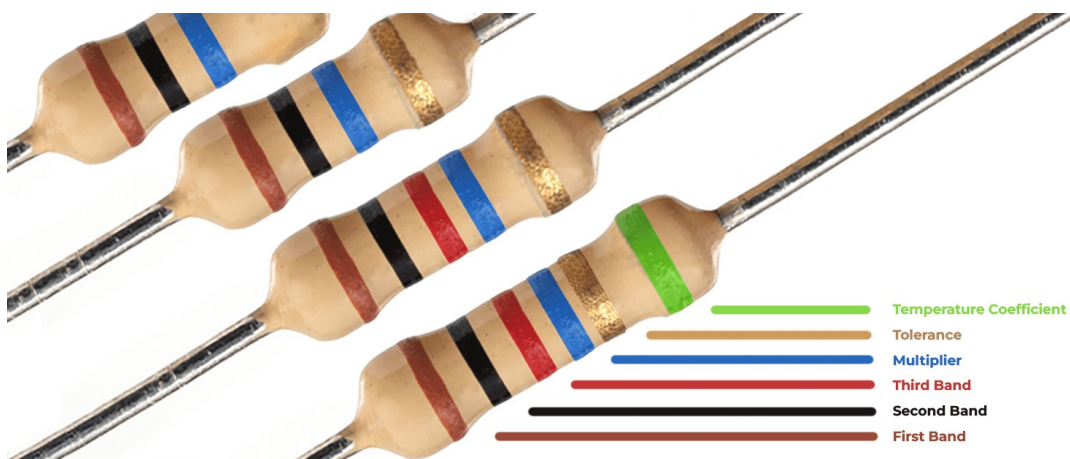

Figure 16: Resistor Coloured Bands
- k. Resistors are small and printing numbers on their cylindrical bodies is difficult. Resistor manufacturers came up with a solution of printing different coloured bands instead of numbers. See: Figure 16.